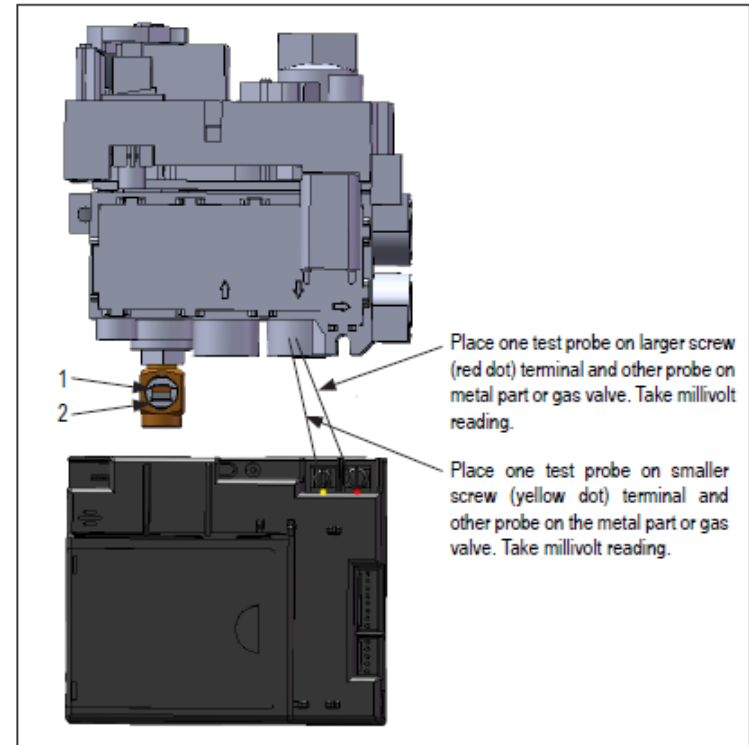
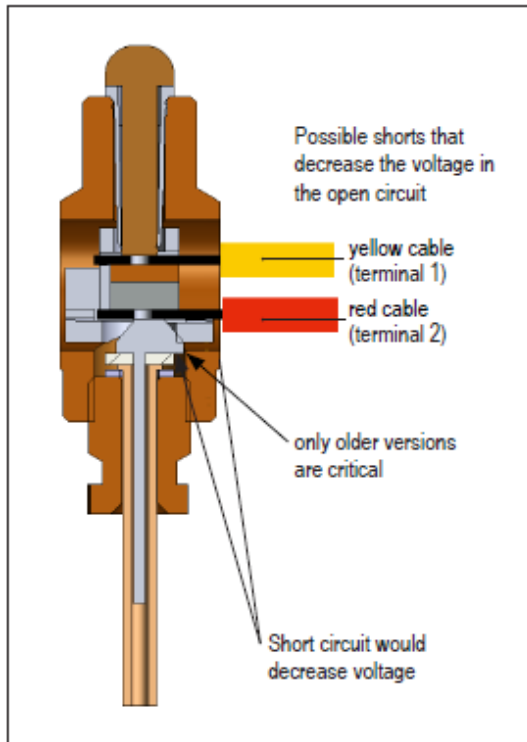

Figure 1
Figure 2
- Check that the pilot burner is generating enough voltage (see figure 1). Measure the voltage between the larger screw (with red dot) on the receiver unit and any metal part of the gas valve. At the point the thermocouple takes over and the motor turns and opens, the voltage reading should be more than 12 mV for Oxypilot and 20 mV for other pilot burners. This is the voltage being created by the pilot burner in an open circuit (It is independent of the resistance in the circuit) and only a short at the interrupter (see figure 2) could cause failure.
- Less than 5.5 mV – the increased resistance is in the interrupter block terminal 2 (see figure 2), the receiver unit, or the thermocouple.